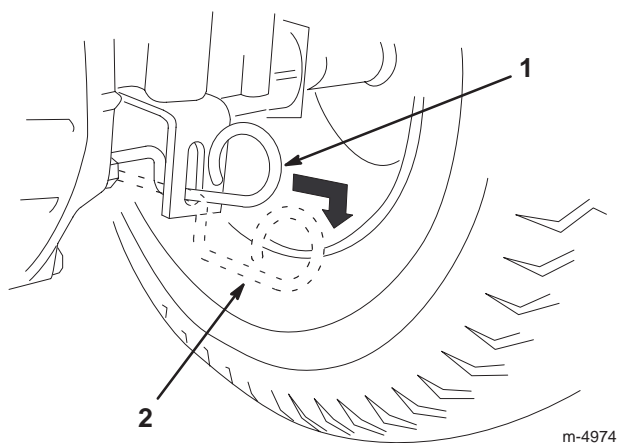

Figure 13
- Pull the drive control out to the Push position (Fig. 13).
Note: This disengages the drive system and allows the wheels to turn freely (Fig. 13).
Push the drive control in to the Operate position (Fig. 13).